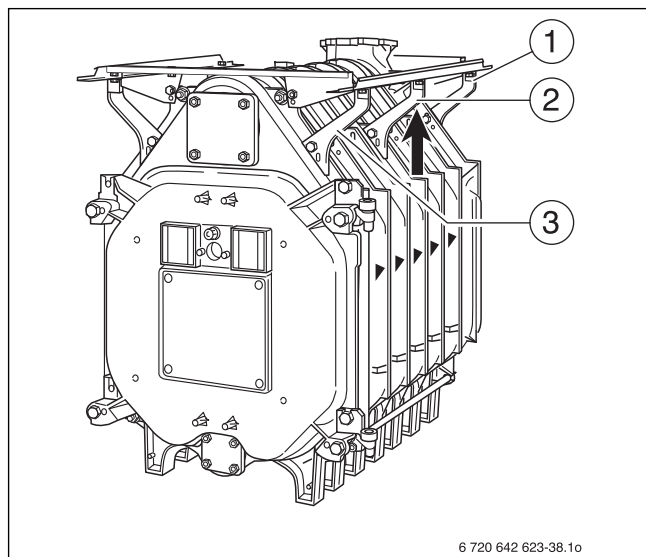

Fig. 40 Aligning the longitudinal rails
- ▶ Align the longitudinal rails, screw on the brackets at the front and/or rear section (→ Fig. 40, [1 and 3]) and fully tighten.
- ▶ Push the center brackets (→ Fig. 40, [2]) against the longitudinal rails from below, then screw onto the boiler block and tighten.